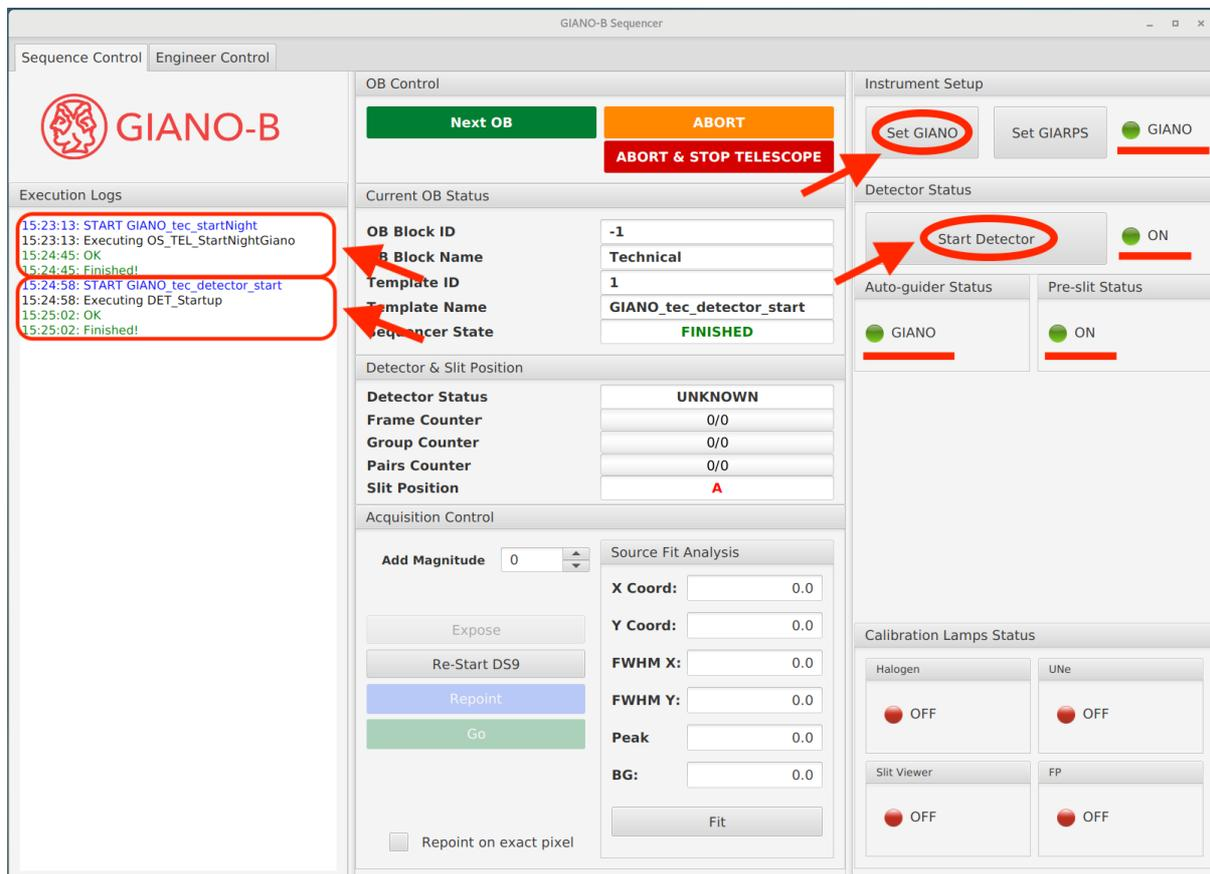

Figure 9. The Sequencer GUI with buttons used for initialization and corresponding status leds and log messages indicated in red.
- The “led” light on “Auto-guider Status” panel of the Sequencer GUI has to be green indicating that the AG is running (Figure 9). Next to it, “GIANO” label has to be displayed, specifying that the AG operation mode is set for GIANO-B observations.
- The led on “Pre-slit Status” panel has to be green and the label “ON” confirming that the Pre-slit service is running (Figure 9).
This command is issued clicking “Set GIANO” button on the “Instrument Setup” panel of the GUI (see Figure 9). The TO has to be warned before the launch of this command. On the button click, a warning message will pop up stating that this operation may take up to 3 minutes. Until the end of the execution of this command no other Sequencer command has to be issued.
This command is issued clicking “Start Detector” button on the “Detector Status” panel of the GUI (see Figure 9). When the operation is successfully finished, the led indicator will